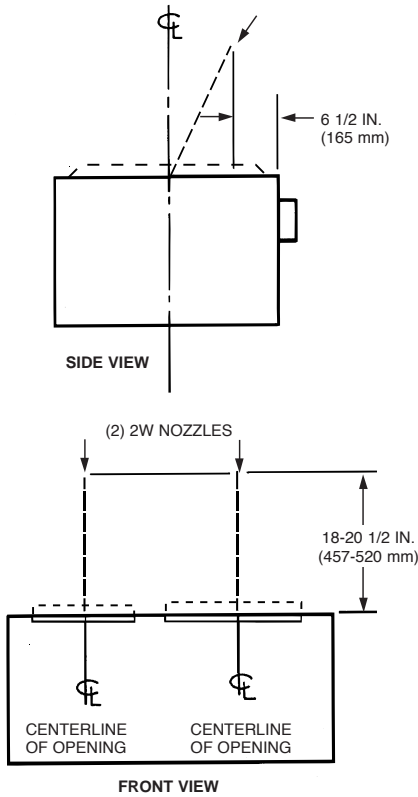

FIGURE 4-91
- **Nozzle Height:** 20 1/2 in. (520 mm) above top of appliance. See Figure 4-91.
- **Nozzle Location:** 6 1/2 in. (165 mm) back from front edge of appliance. See Figure 4-91.
- **Nozzle Aiming Point:** Aimed at center of each opening. See Figure 4-91.